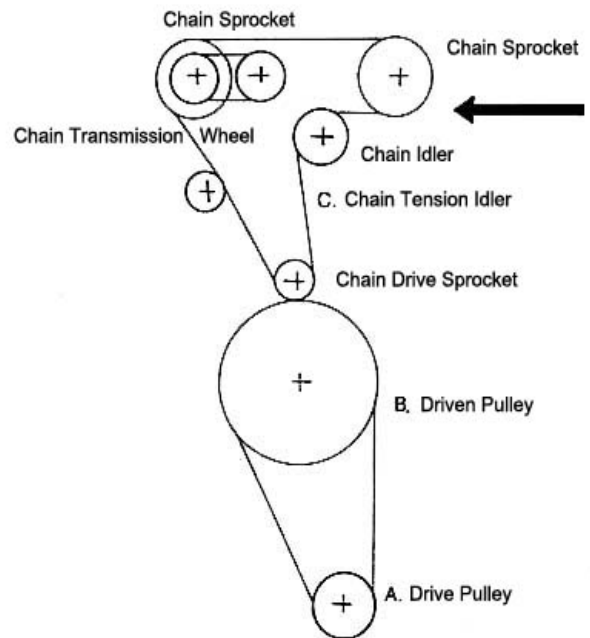

Fig. 15
Please adjust (C) when drive chain become loose, as shown in Fig. 15.